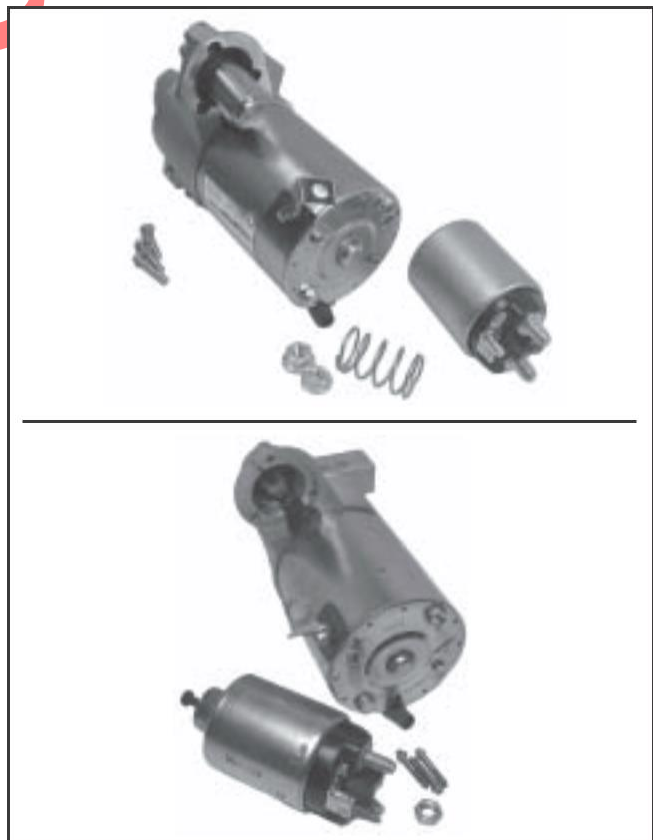

Figure 8-31. Solenoid Removed From Starter.
3. If the solenoid was mounted with Phillips head screws, separate the solenoid and plunger spring from the drive end cap. If the solenoid was mounted with external Torx head screws, the plunger is part of the solenoid, unhook the plunger pin from the drive lever. Remove the gasket from the recess in the housing. See Figures 8-31 and 8-32.